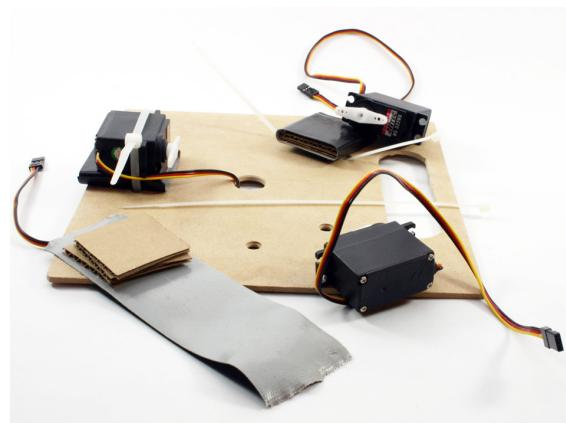

Figure 13-14 Attaching servo motors
11. Now tape three pieces of cardboard together, and sandwich them between the servo and the top platform. Then zip-tie the whole thing to the top platform. This cardboard shim provides a little bit of clearance to make sure the top part of the servo arm can rotate freely. If you have something stronger than cardboard like a few extra bits of hardboard or other wood, that's even better! Just make sure you have about 1/2" of clearance. Pay attention to the orientation of the servo motors as indicated on the template. There was a little awkward space left over, so I've cut out a carrying handle. This is completely optional. Figure 13-14 shows the servos attached.